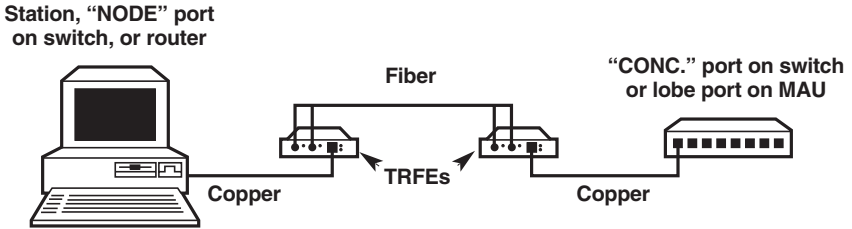
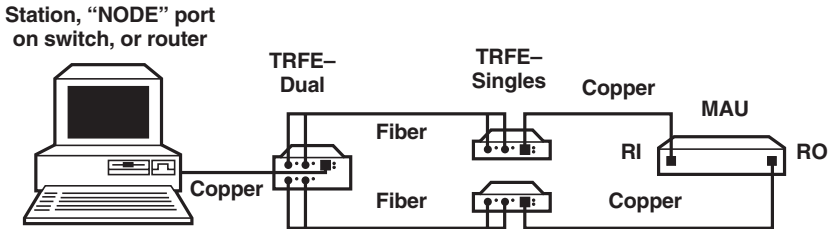
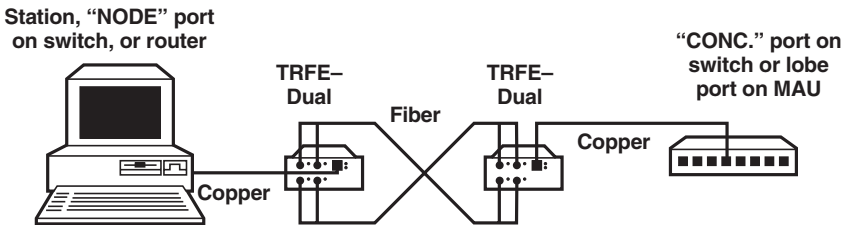

Figure 2-3. Connecting a station to a concentrator.
Figure 2-6. Dual (redundant) main-ring link.
Figure 2-7. Dual (redundant) lobe link.
You can use Token Ring Fiber Extenders to connect a remote station, switch, or router to a MAU across a fiber link, as shown in Figure 2-3 below.
You can use a TRFE-Dual to create a redundant link between a station and the main ring (Ring In/Ring Out) path of a classic Token Ring, as shown in Figure 2-6 below, or to create a redundant station-to-MAU link, as shown in Figure 2-7.
Note: TRFEs–Dual may be connected either to each other, as shown in Figure 2-7 on page 15, or to two TRFEs–Single as shown in Figure 2-6 on page 15. When you connect TRFEs–Dual to each other, each unit's Port-A Tx must be connected to the other unit's Port-B Rx; likewise each one's Port-A Rx must be connected to the other's Port-B Tx. When you connect a TRFE–Dual to a pair of TRFE–Singles for main-ring extension, the Dual's Port-A Tx must be connected to Rx on the "Ring In" Single, and Port-A Rx must be connected to that Single's Tx. Likewise, the Dual's Port-B Tx must be connected to the "Ring Out" Single's Rx, and the Port-B Rx must be connected to that Single's Tx. Refer to Figure 2-6 on page 15.
1. Station-to-Concentrator (Lobe Extension)—see Figure 2-3 on page 11 and Figure 2-7 on page 12
4. Redundant Main-Ring Extension—see Figure 2-6 on page 12